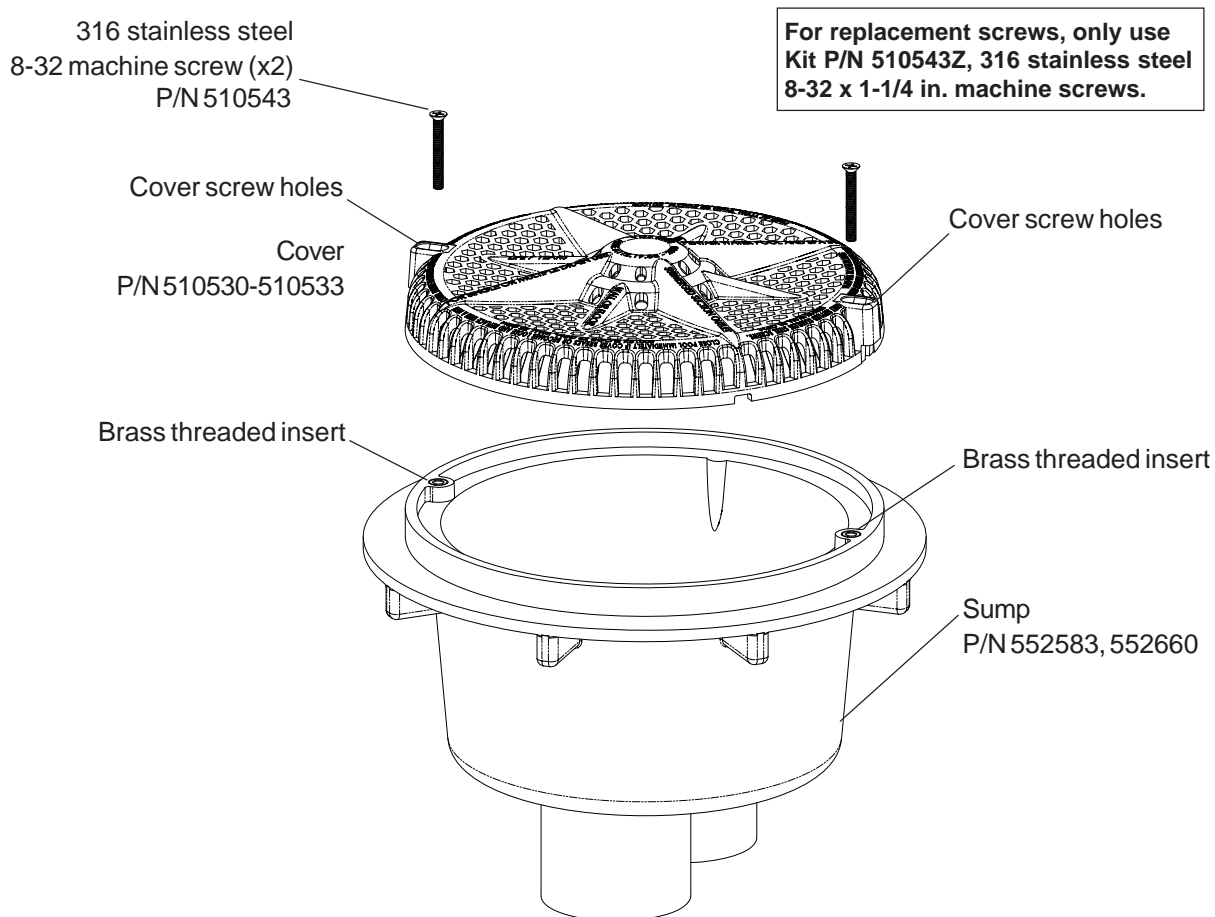

Figure 1
- Mount the drain cover on top of the sump (see Figure 1).
- Install the two (2) 316 stainless steel 8-32 machine screws (provided) into the holes in the top of the cover. Using a No. 2 Philips head screwdriver, tighten each retaining screw to a **torque value of 10.00 (minimum) to 15.0 (maximum) in/lbs** to secure the cover. DO NOT OVER TIGHTEN THE SCREWS. DO NOT ASSEMBLE WITH POWER TOOLS.